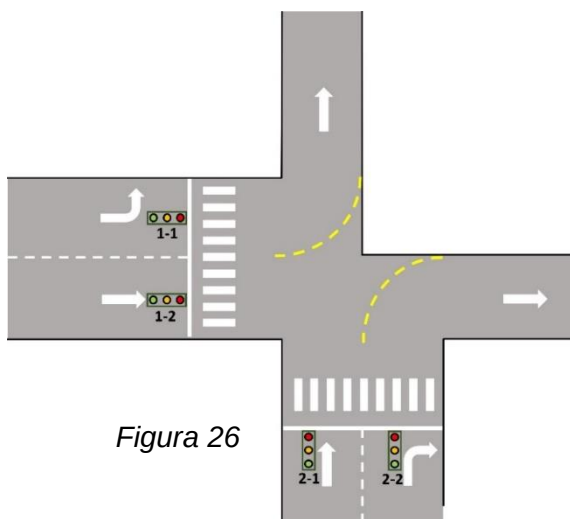

Figura 26
- “Draft Layout_4 luci” **Figura 26**